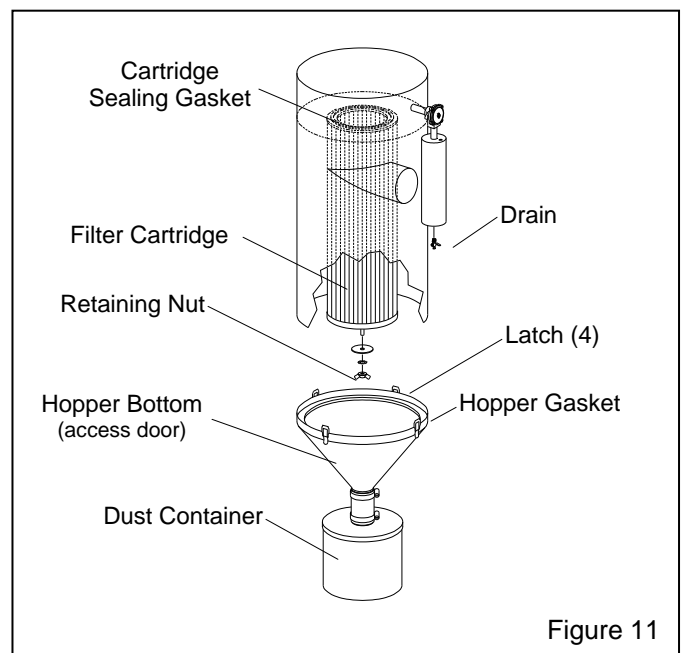

Figure 11
6.2.1 Open the petcock to drain water from the pulse manifold before and after each use. Refer to Figure 11 for the location of the drain petcock.
7.7 Filter Cartridge Replacement, Figure 11